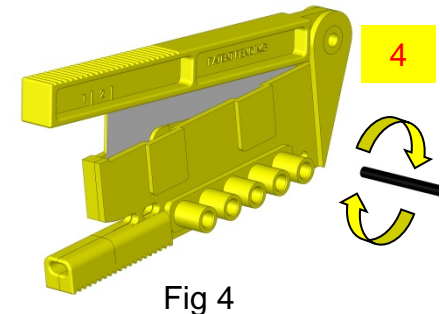
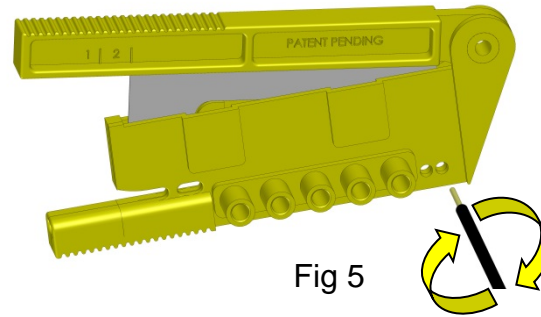

Fig 4
Fig 5
4. To strip the fiber, insert the fiber into the tool and close the tool. Keep the tool closed then rotate at least 1 ½ turns (Figure 4) Then pull outward to remove the jacket. (Figure 5)
6. If you are using duplex cable, Line up the second fiber to the seam of the tool as shown in Figure 5 and then remove that jacket as well.